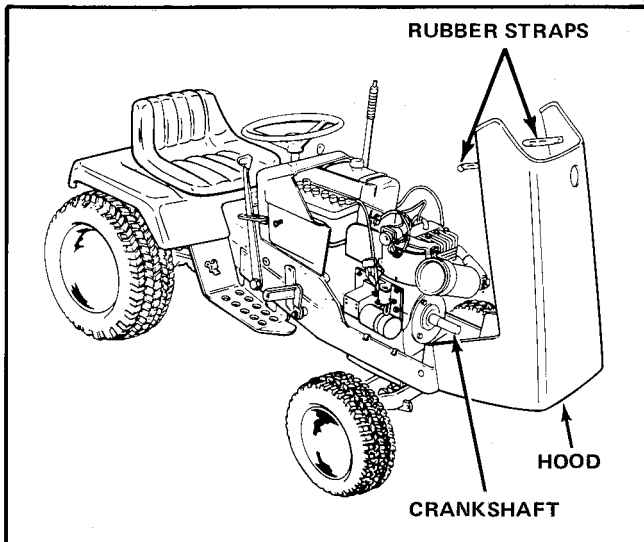

Figure 20. Raise Tractor Hood
1. The keyway in engine crankshaft (see figure 20) must be straight up at top of crankshaft. If not, crank engine to turn keyway straight up.